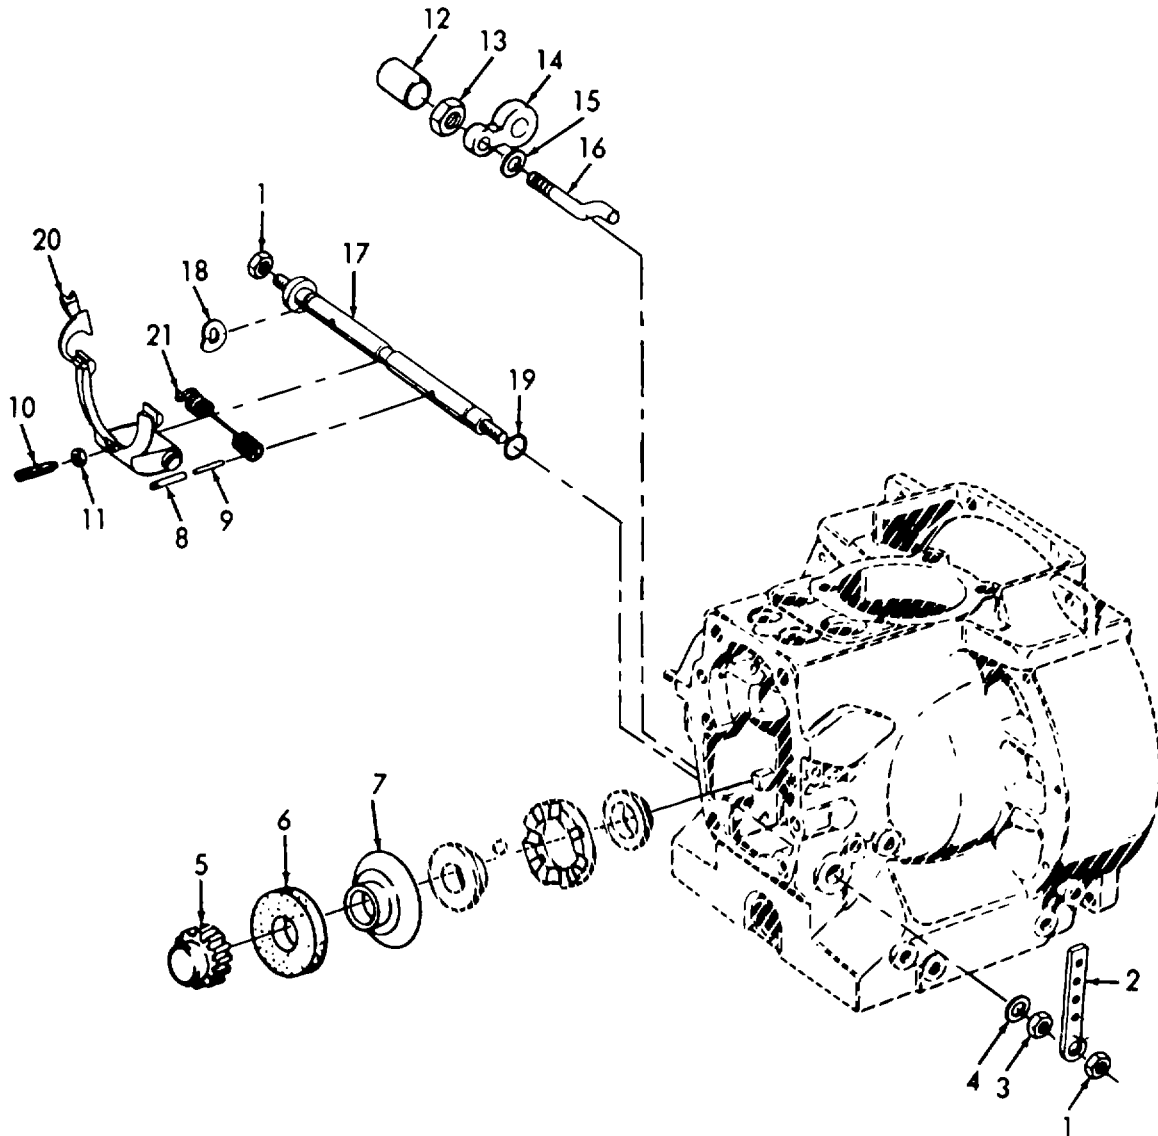

Figure 6-9. Governor Removal.
a. Removal. (Refer to figure 6-9).
- (1) Remove two nuts (1), lever (2), nut (3), and disc (4).
- (2) Remove gear (5) using extractor. Remove disc (6) and shell (7) from crankshaft.
- (3) Remove threaded pin (10) and nut (11) from lever (20).
- (4) Remove four pins (8 and 9) from shaft (17).
- (5) Remove cap (12), nut (13), plate (14), packing (15), and eccentric pin (16). Discard packing (15).
- (6) Lightly push shaft (17) from crankcase.
- (7) Remove washer (18) and two packings (19). Discard packing (19).
- (8) Remove lever (20) and spring (21) from crankcase.